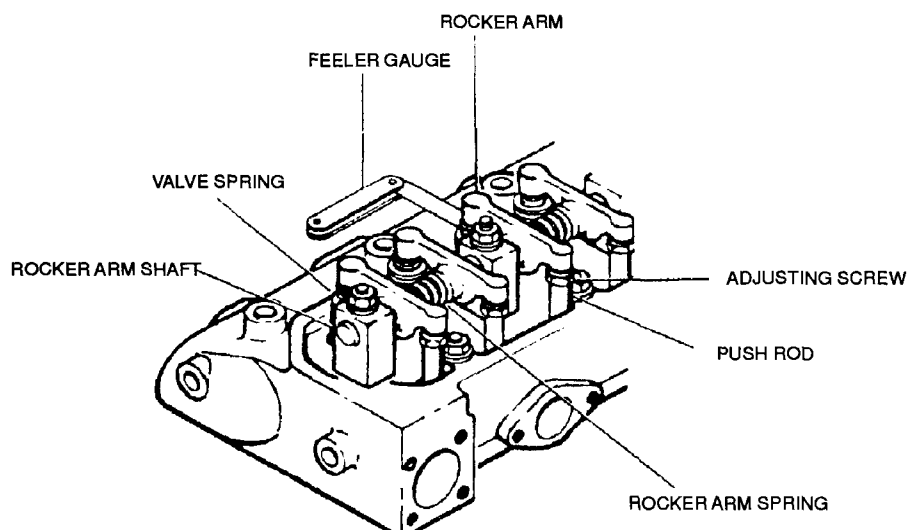

Figure 4-37. Rocker arm assembly inspection and valve tappet clearance adjustment
- d. Inspect valve rocker arm assembly as follows (Figure 4-37).
- (1) Check adjusting screw, rocker arms, and shaft for cracks and indications of excessive wear.
- (2) Inspect springs for distortion, cracks, and breaks.
- (3) Check the oil hole in each rocker arm for plugging. Use a small wire and compressed air to clean plugged oil holes.
- d. Using a feeler gauge, check clearance between the valve stem and the rocker arm on both intake and exhaust valves (Figure 4-37). Clearance should be 0.015 hot.